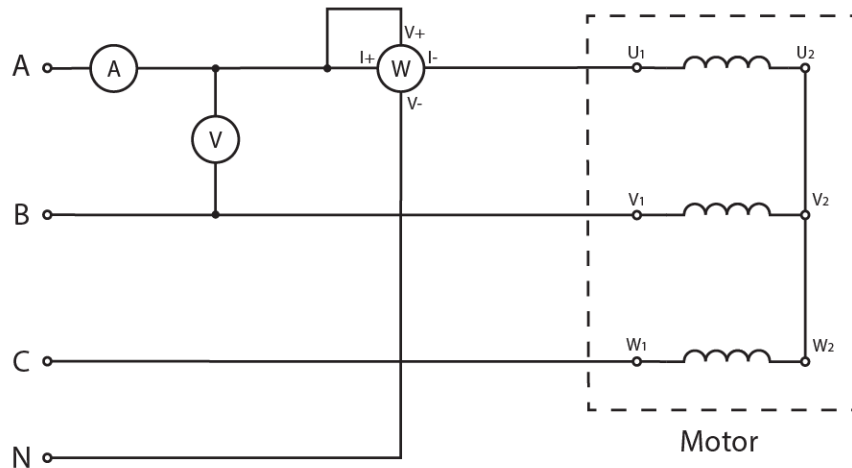

Figure 1
2.1.1 Connect the circuit shown below in Figure 1: